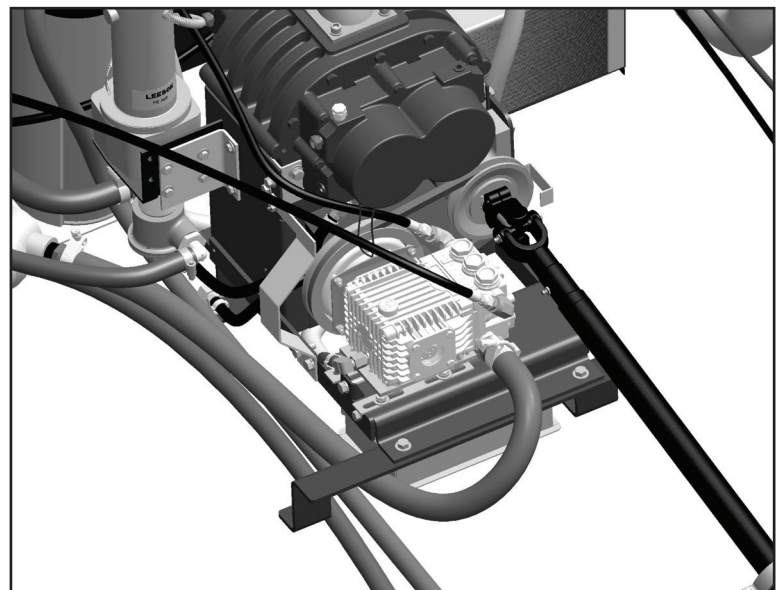

Figure 31. Route and Connect the Longer Hose from the Pump
11. Route and connect the longer 1" dia. suction hose (P/N 000-068-1044) from the Water Pump to the Strainer. Secure with hose clamps (see Figure 31).
The Power Pack frame spacers are designed to allow routing of the two 1" hoses under the Power Pack, and routing up to the Recovery Tank and behind the front panel of the CDS (see Figure 31).